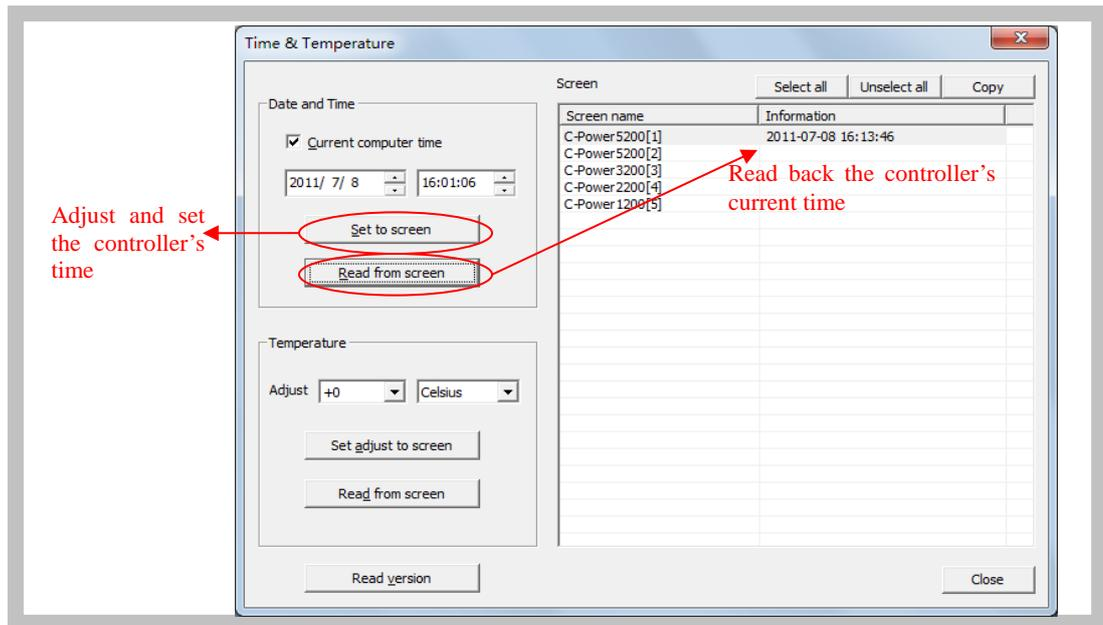

Figure42 Time setting
- 3) Time set and read: as Figure42 shown.